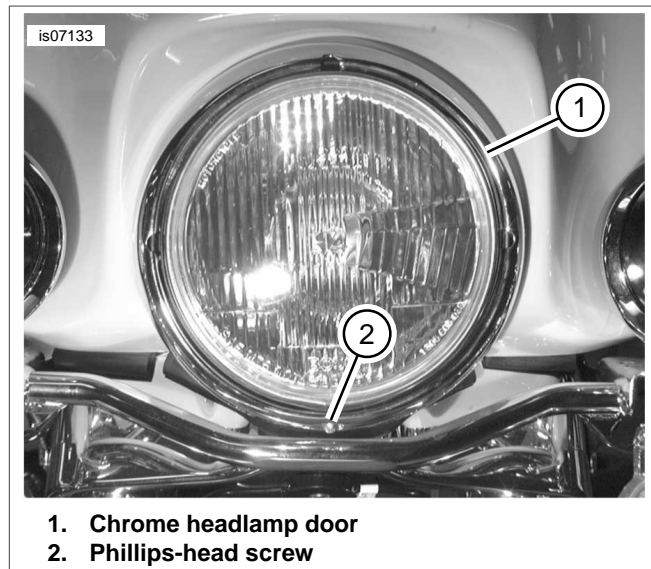

Figure 1. Remove Headlamp Door
1. See Figure 1. Remove the Phillips-head screw (2) at the bottom of the chrome headlamp door (1).
13. Fit the headlamp door spring into the slot at the top of the headlamp housing. See Figure 1. Install the chrome headlamp door (1). Insert the Phillips-head screw (2) at the bottom. Tighten to 9-18 **in-lbs** (1.0-2.0 Nm).